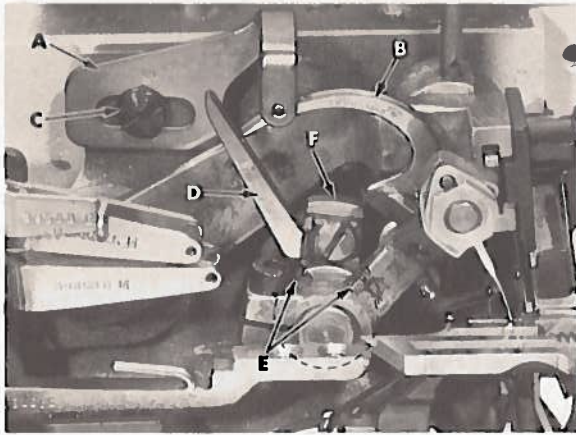

Fig. 24
Needle thread is controlled by needle thread eyelet (A, Fig. 24) and needle thread cam pull-off (B). Needle thread eyelet is set so the securing screw is centered in the screw slot, front to back. Raise or lower the eyelet to have needle thread barely touch needle thread cam pull-off when needle carrier is in its lowest position.
Clearance between looper thread pull-off (D, Fig. 24) and needle thread cam pull-off (B) should be only enough to ensure proper take-up of looper thread as shown in Fig. 24. Loosen screws (E) and rotate looper thread pull-off lever (F) front to back on needle driving shaft until proper clearance is obtained. Before tightening screws (E) be sure to take up all end play in needle drive shaft.